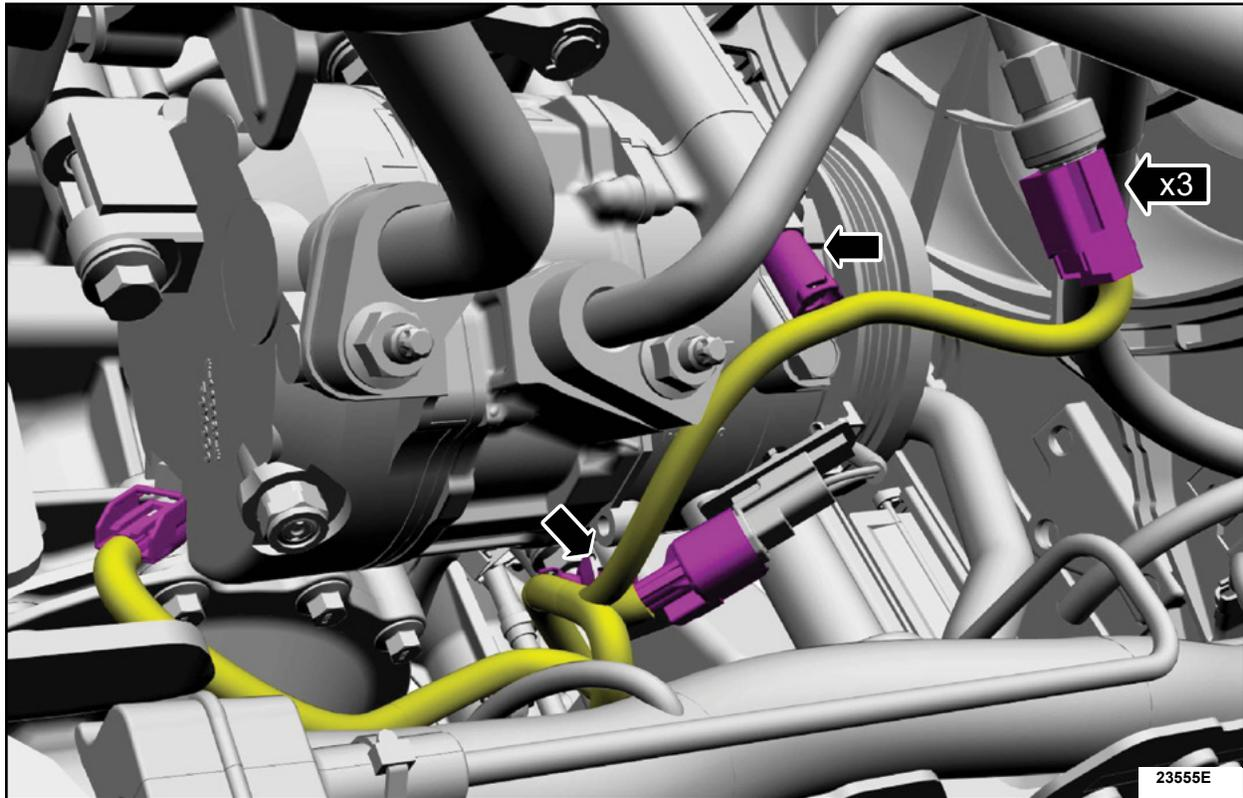

FIGURE 16
17. Connect the electrical connectors and the wire harness retainers.. See Figure 16.